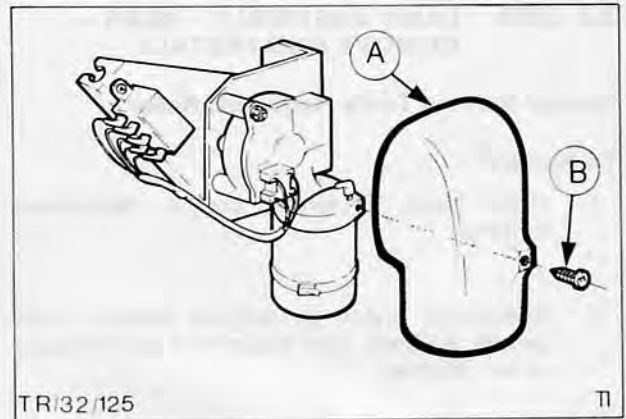

Fig. 25. A – Motor cover
2. Remove motor cover securing screw and remove cover, Fig. 25.
9. Refit motor cover and secure with screw, Fig. 25.